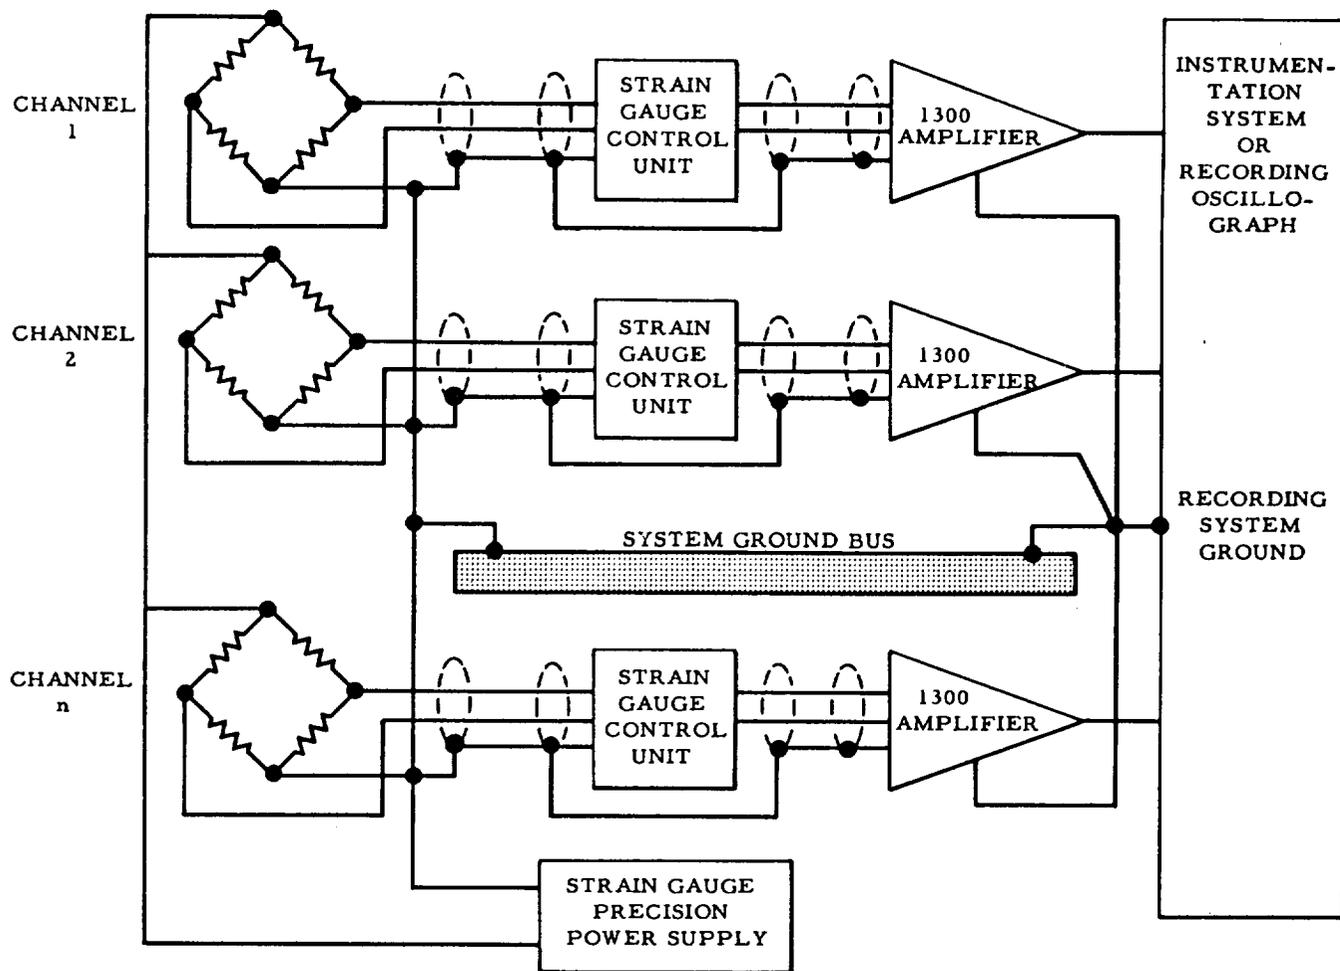

Figure 6. Application for Cubic Model 1300 Differential DC Amplifiers
2.7 Application. The model 1300 amplifier was designed primarily for use as a preamplifier with low-impedance sensors such as thermocouples, strain gauges, potentiometric pickups, etc. It has sufficient gain (10 to 2500) to match almost any transducer to any data acquisition system. Figure 6 shows a typical instrumentation system application of the model 1300 amplifier. Since each amplifier contains its own regulated and isolated power supply, the output from each amplifier can be grounded at the optimum system location.
2.7.2 Since the model 1300 amplifier contains a differential input, a system such as that shown in figure 6 does not require an individual precision power supply for each strain gauge channel, thus resulting in an appreciable cost saving for the user. The system ground bus should be such that the voltage drop across its length does not exceed a few (2 to 5) volts. This low voltage drop is required by the $\pm 10V$ common-mode limitation on the amplifier. It should be noted that one-half the bridge excitation appears as a common-mode input to the amplifier.